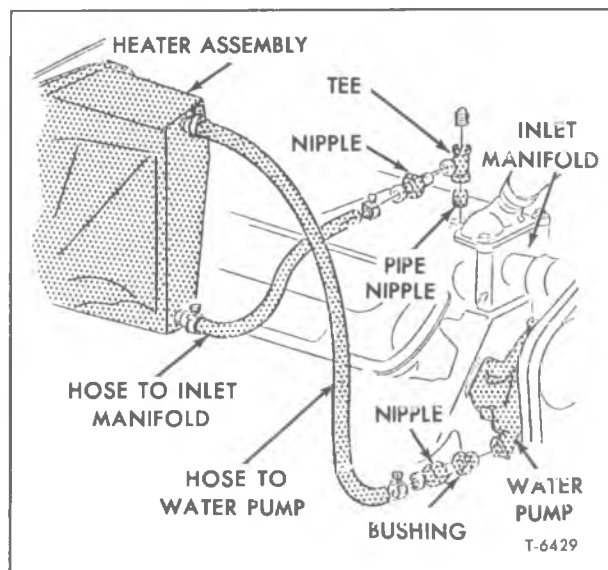

Figure 32—Heater Hoses (6U Series) (Typical)
4. Disconnect heater hoses at the core tubes (fig. 32).